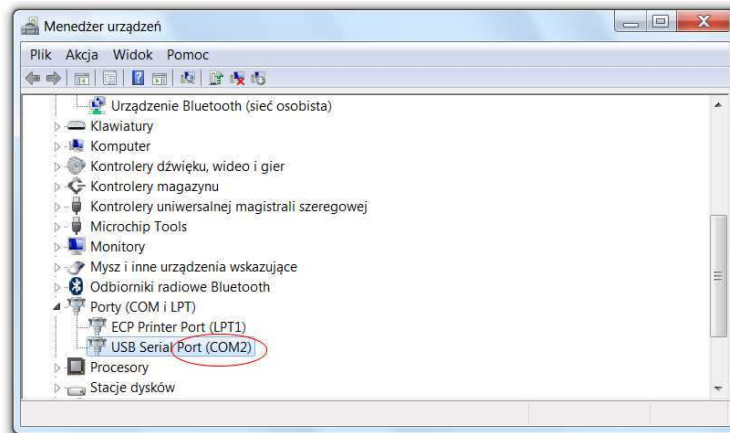

Fig. 2.0.0
1. Check in your System Manager the number of COM port assigned/connected to the device – See Fig 2.0.0